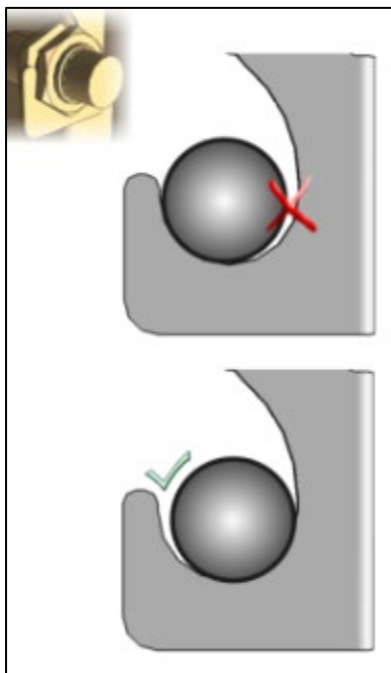

Figure 38
2. Make sure proximity sensor is placed in support opening as shown below (Figure 38), pushing it down and curbside in the opening. If not, reposition and apply Loctite 243 (blue).